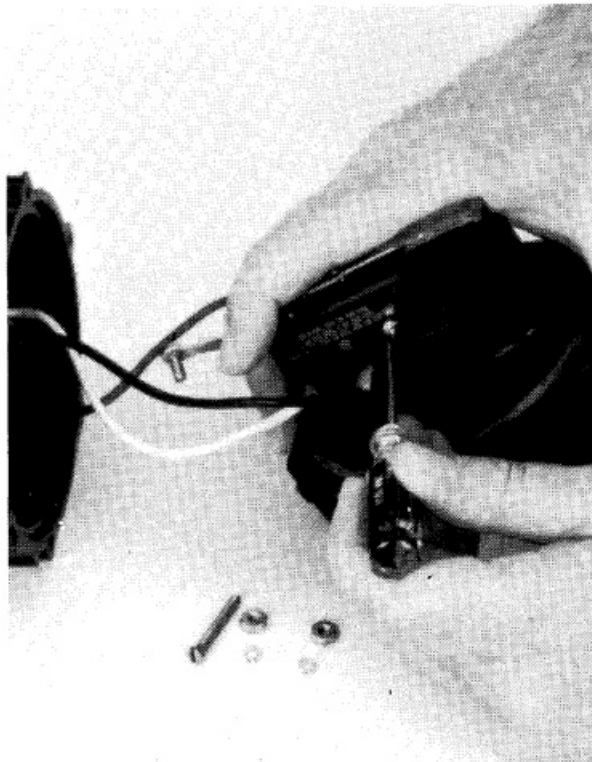
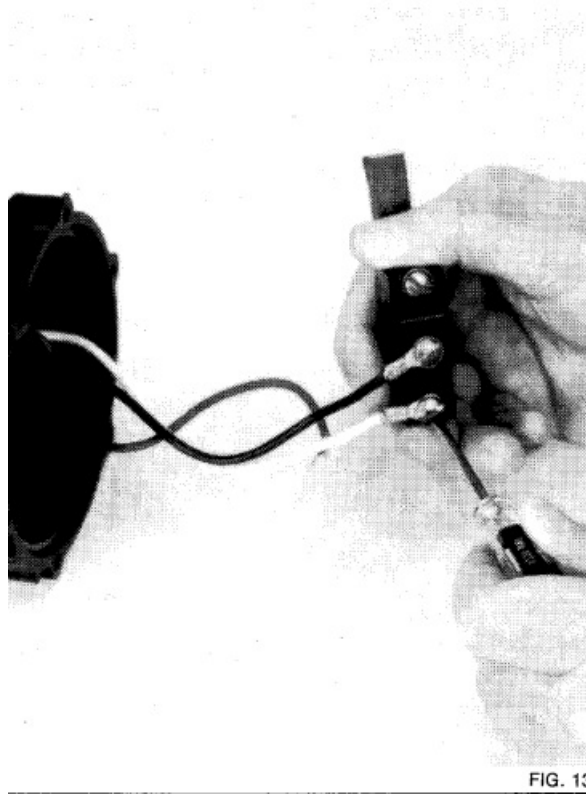

FIG. 12
FIG. 13
5. To replace switch and magnet, remove holding screws Fig 12 and disconnect wires Fig 13.